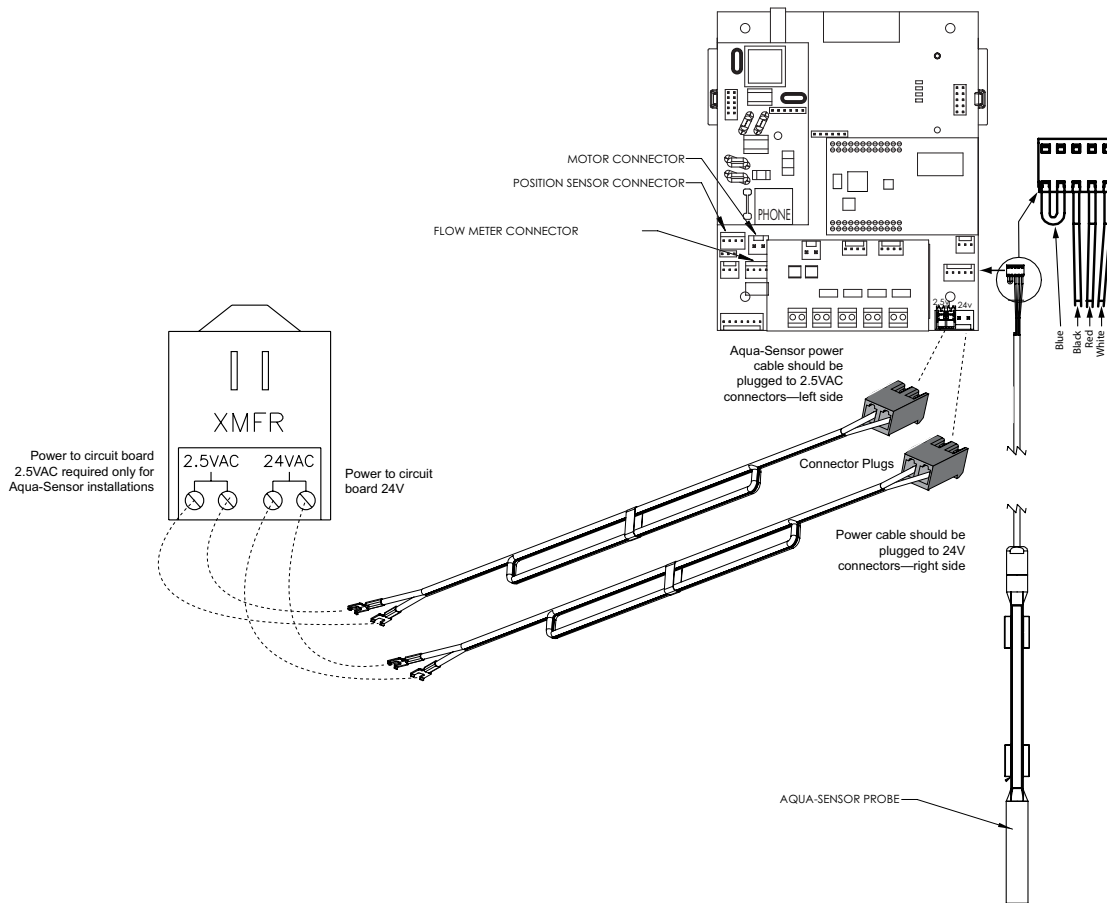

Figure 23. 2.5 VAC Aqua-Sensor® power connection.
- e. Connect the other end of the power cord, with the spade terminals, to the two 2.5 VAC terminals on the transformer. See Figure 23.